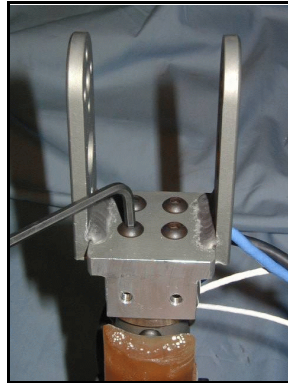

Figure 3.34 - Knee Clevis Attachment
31. Attach the Knee Clevis Assembly (T2LLW020) to the top of the Upper Tibia Load Cell using four 1/4-28 x 5/8" BHSCS {5/32}, as shown in **Figure 3.34**.